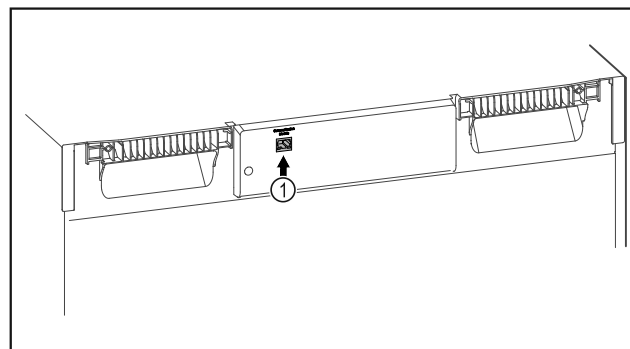

Fig. 82
- ❑ SmartModule Fig. 82 (1) is in use.